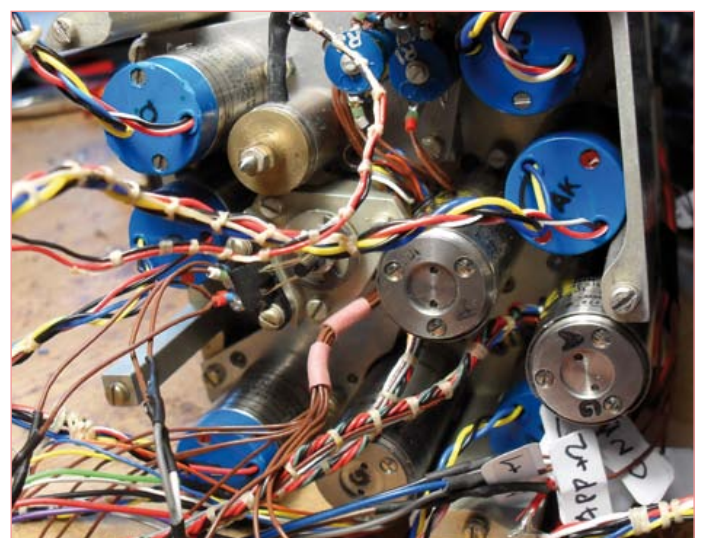

Figure 1. A peek around the back showing the motors and synchros
A local supplier of surplus electronic instruments [1] had already caught the attention of the Elektor team and was the subject of a Retronics instalment in Elektor [2]. The surplus piece of kit in question here (Figure 1) is a 'Horizontal Situation Indicator' (HSI) [3] which in some previous life graced an aircraft's instrument panel. This combination instrument includes indicators for the VHF Omnidirectional Range (VOR) radio navigation system, the glide path (ILS) and the Heading Indicator (HI).
A view around the back of the instrument (Figure 1) reveals the impressive collection of electro-magnetic devices used in the instrument. Some parts have a blue end cover and some have a plain metal cap. The blue components come from the aerospace and avionics component manufacturer Muirhead [5]; these devices have three wires for the primary side and two for the secondary side. It turns out that the units function as synchros [5] or resolvers. A good description of how these components work can be found at